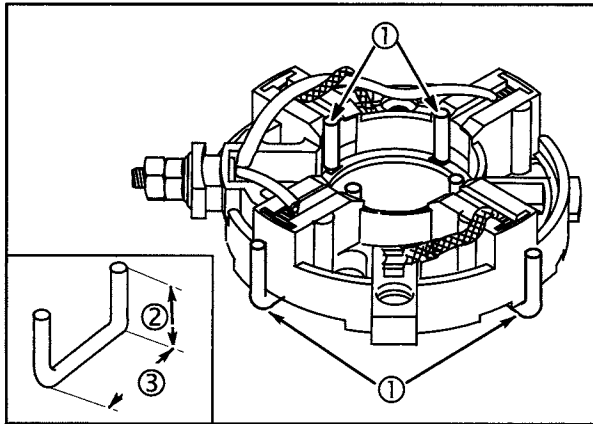

Fig. 22
End caps with radial compression type springs require 4 brush retainers (1) to hold brushes clear of armature commutator, Fig. 22.
Brush retainers can be made from Part #26634 control wire or similar material. The retainer is U shaped, with two legs  $1/2$ " (13 mm) high (2),  $3/4$ " (19 mm) long (3), Fig. 22, inset.